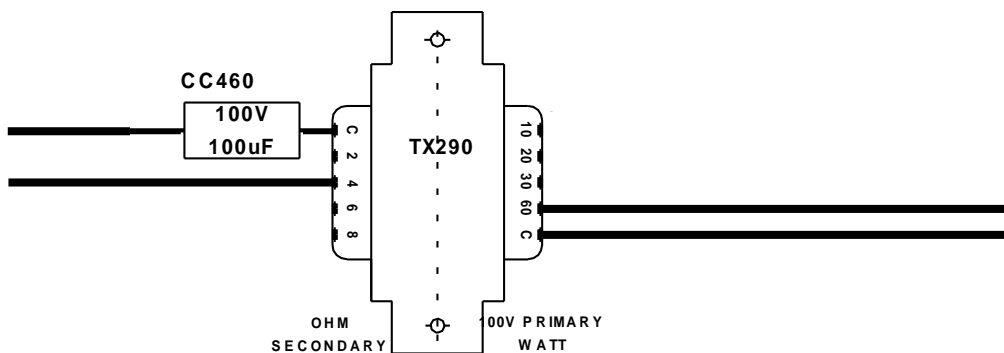

Figure 13 60 Watt Audio Transformer Wiring
1. Mount the 60W audio transformer onto Brooks equipment plate as per 4.5.1 on page 23, Figure 13 on page 23 and Figure 14 on page 24.